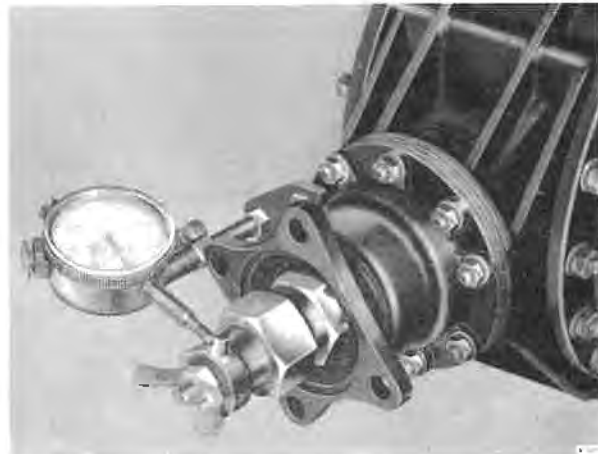

Fig. J23 Checking the crown wheel and pinion backlash
2. Remove the nut and lock washer securing the driving flange to the pinion then fit the adapter RH.577 and dial indicator gauge as shown in Figure J23. The lever attached to the adapter can be rotated if the wing nut is released.